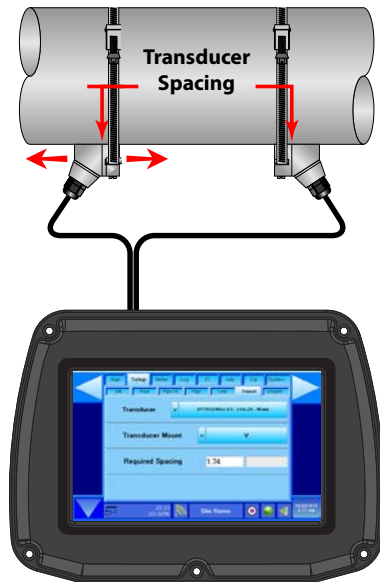

Figure 22: Transducer positioning
2. Using the alignment marks, place the downstream transducer on the pipe at the calculated transducer spacing. See *Figure 22 on page 23*. Apply firm hand pressure. If signal strength is greater than 10%, secure the transducer at this location. If the signal strength is not greater than 10%, using firm hand pressure, slowly move the transducer both towards and away from the upstream transducer while observing signal strength. Signal strength can be displayed on the flow meter's display. Clamp the transducer at the position where the highest signal strength is observed. The factory default signal strength setting is 10%. However, there are many application-specific conditions that may prevent the signal strength from attaining this level. Signal levels less than 10% are not acceptable for reliable readings.